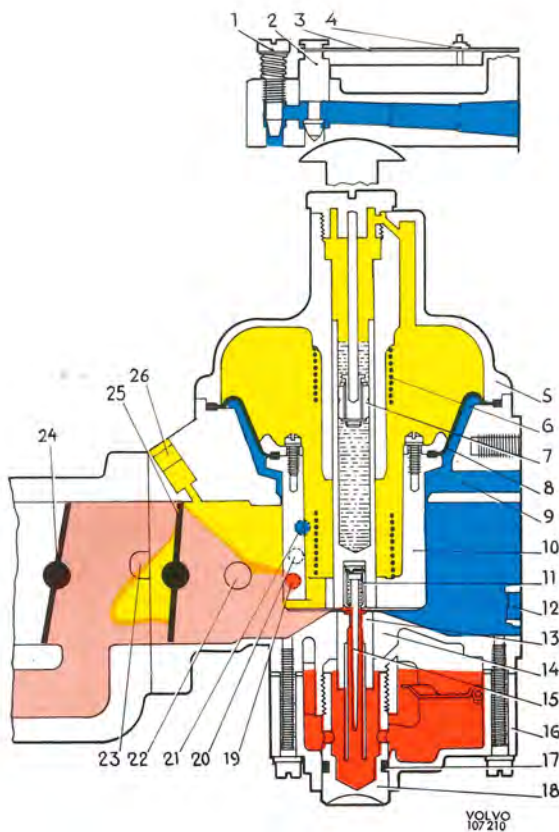
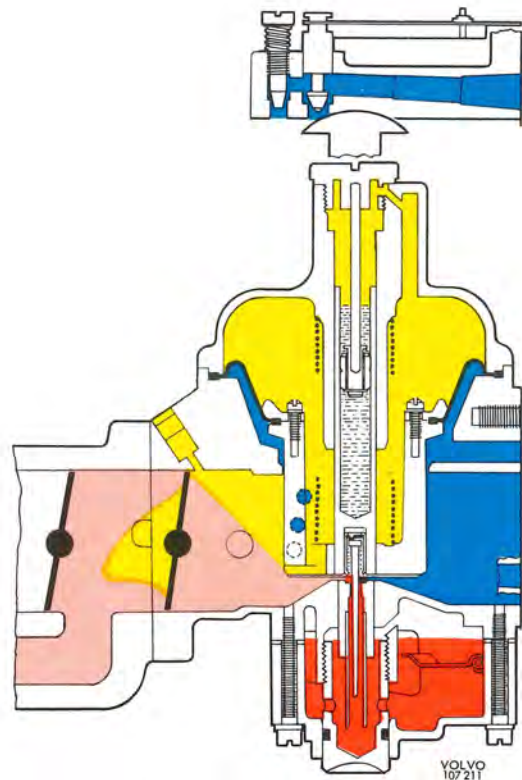
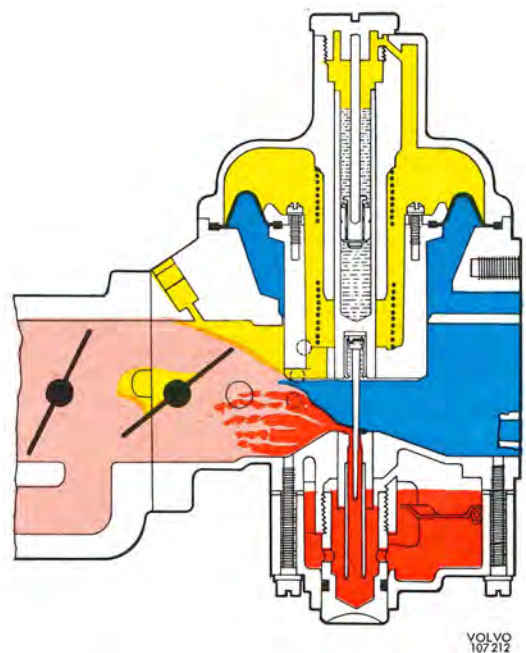

Fig. 2-61. Cold starting, principle
Fig. 2-62. Idling, warm engine
Fig. 2-63. Normal running, with open secondary throttle
Fig. 2-62). At this stage, the thicker section of the metering needle is in the jet and thus only a small quantity of fuel, corresponding to idling requirements, is sucked into the engine. The temperature compensator (Fig. 2-61) is regulated by a bi-metal spring (3) which influences a valve (2). When the engine is hot and the temperature in the carburetor rises, the valve opens and air is supplied to the carburetor venturi to compensate for the increase in the fuel flow, which is obtained due to the alteration in the fuel's viscosity, see Fig. 2-62. Fine adjustment of the engine idling speed can be carried out with the idle trimming screw (1, Fig. 2-61).
With the opening of the throttle flap, engine induction manifold depression is transferred via the channels in the plunger to the suction chamber which is sealed from the main body of the carburetor by the diaphragm. The pressure difference between the underside of the air valve, where there is pressure in the carburetor inlet port, and the upper side of the valve, where there is vacuum, causes the valve to lift from the bridge. This also lifts the tapered metering needle (15, Fig. 2-61), which is attached to the plunger, out of the jet. The effective choke area widens and increases the fuel flow. See Fig. 2-63.
When the air valve (10, Fig. 2-61) lifts, the damper piston (7) is forced against its seat and oil is prevented from flowing past from the upper side the lower side of the damper plunger, this retarding the movement of the valve (10). This temporarily results in a more powerful vacuum above the jet so that the fuel-air mixture becomes for the moment richer.